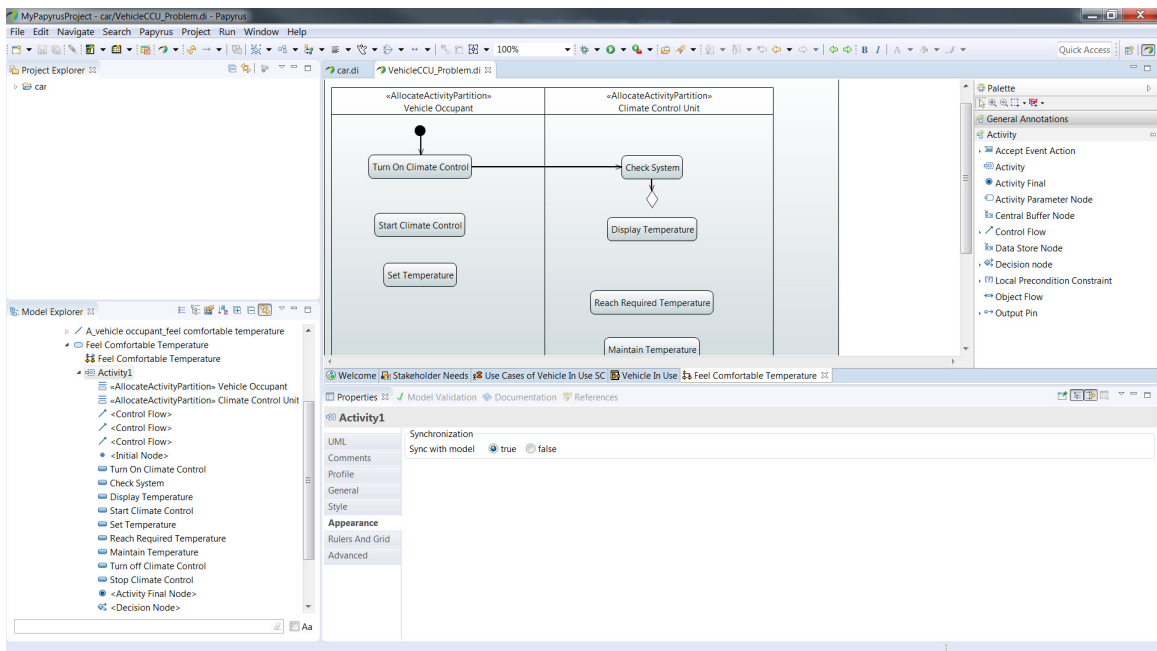

Figure 52: Control Flow at Decision Node
21. Add a control flow between the *Check System* action and the decision node you just created (figure 52).